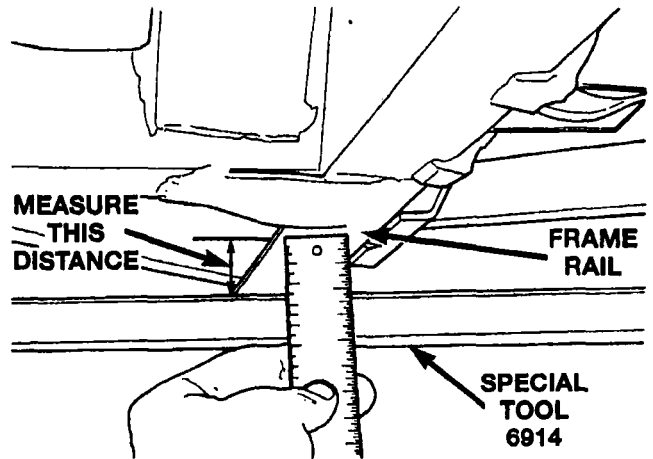

Figure 14
b. Check the distance from the bottom of each of the **front** frame rails to the top surface of the Vehicle Height Checking Fixture (Special Tool #6914) (Figure 14). The distance should be: